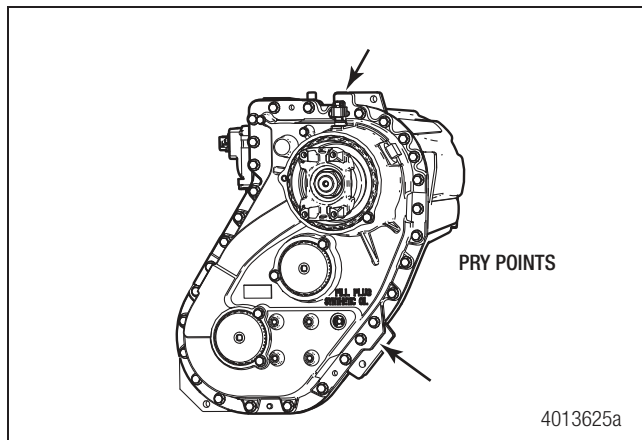

Figure 4.15
18. Separate the case halves. Use a pry tool at the case flanges to help loosen the rear case. Figure 4.15.